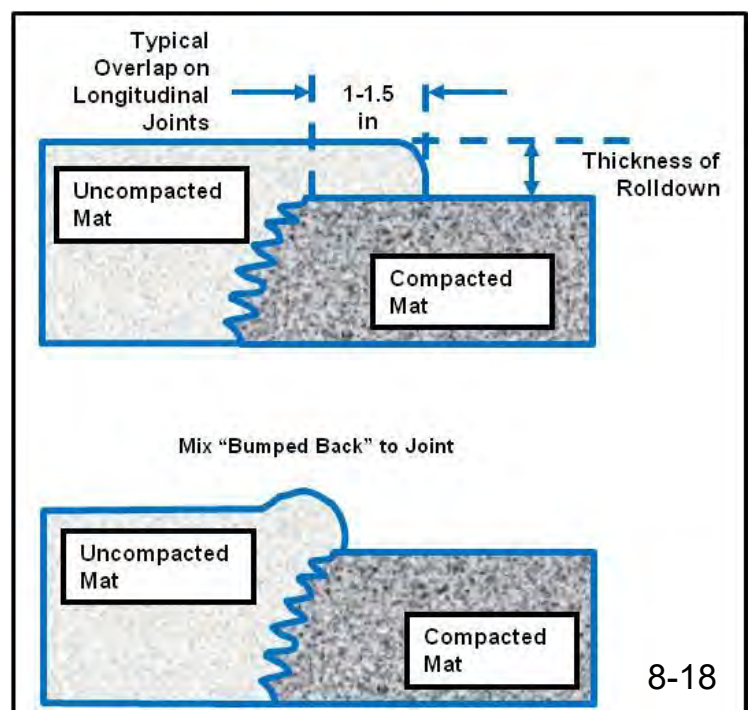

Figure 2. Best practices for placing mix at a longitudinal joint.
- First, overlap the existing lane (of a butt joint constructed with the paver) 1 inch \pm 0.5". When the butt joint is constructed by milling or cutting back the existing lane, the overlap should be about ½ inch. If the overlap exceeds 1.5", carefully remove the excess with a shovel. See Figure 2.